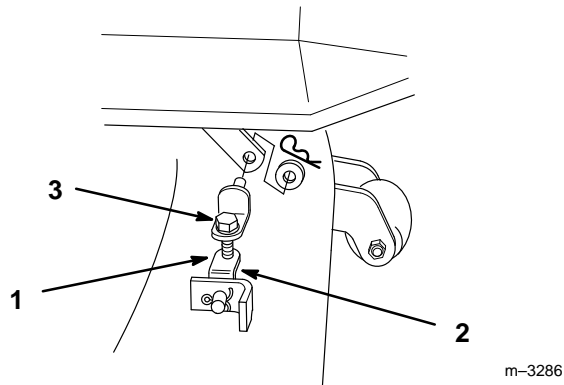

Figure 14
6. To adjust front-to rear blade level loosen jam nuts on front adjustable links. (Fig. 14).
7. Rotate the bolt on front adjustable links to change front-to rear blade level (Fig. 14).